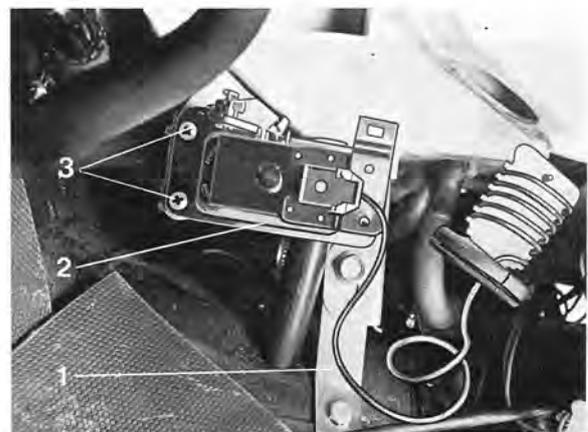

Fig. 8-79. Replacing heater control valve
6. Remove the screws securing the valve to the bracket (Fig. 8-79), and release the capillary tube from the air duct.